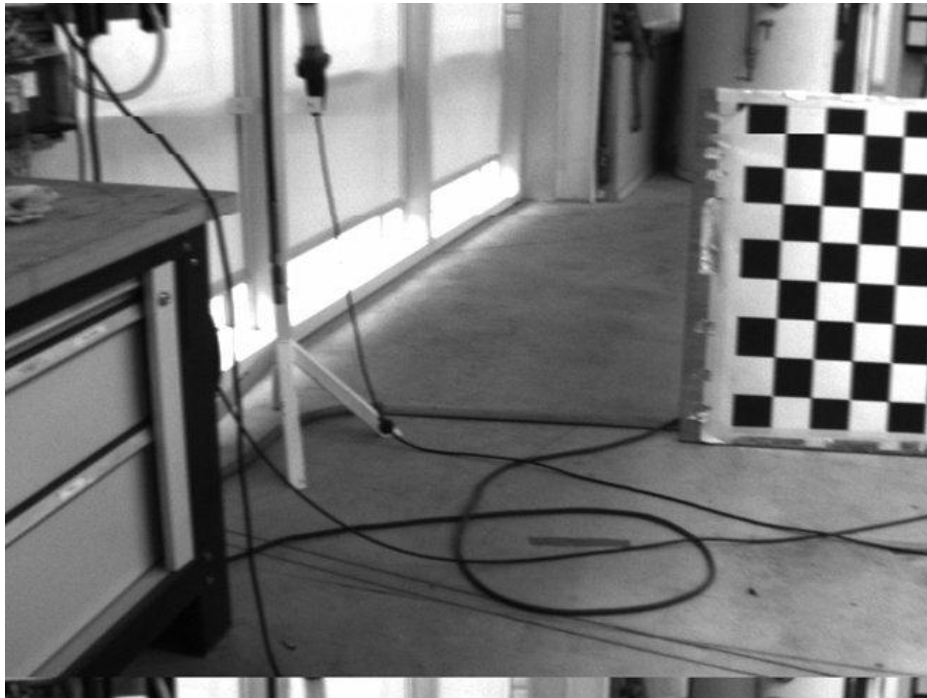

Figure 2
- Tears through the middle of an image due to data packets being dropped and the current image being filled by data from the next image (Figure 2 above).